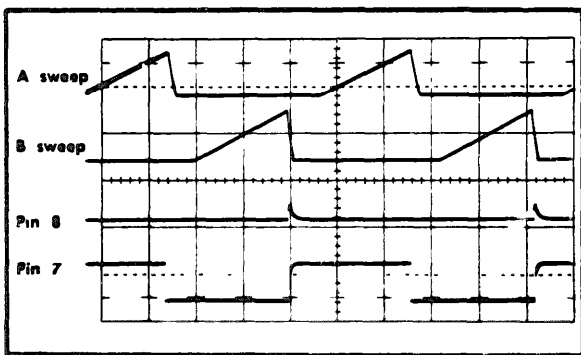

Fig. 4-2. The time relationship between the alternate-sweep slave pulse, alternate-trace sync pulse and the alternate sweeps of a Type 547 Oscilloscope.
When the plug-in unit is used with an oscilloscope that has alternate sweep switching, an Alternate Sweep Slave Pulse is coupled into pin 7 of the interconnecting plug The slave pulse insures that the multivibrator (Q315-Q325) turns on Channel 1 during the Time Base A sweep of the oscilloscope This, in turn, allows the Channel 1 signal to be displayed on the Tune Base A sweep of the oscilloscope and the Channel 2 signal to be displayed on the Main Time Base (B) sweep See Fig 4-2 for the relationship of the slaving pulse to the oscilloscope sweep voltages Note that this capability occurs only in the ALT setting of the MODE switch